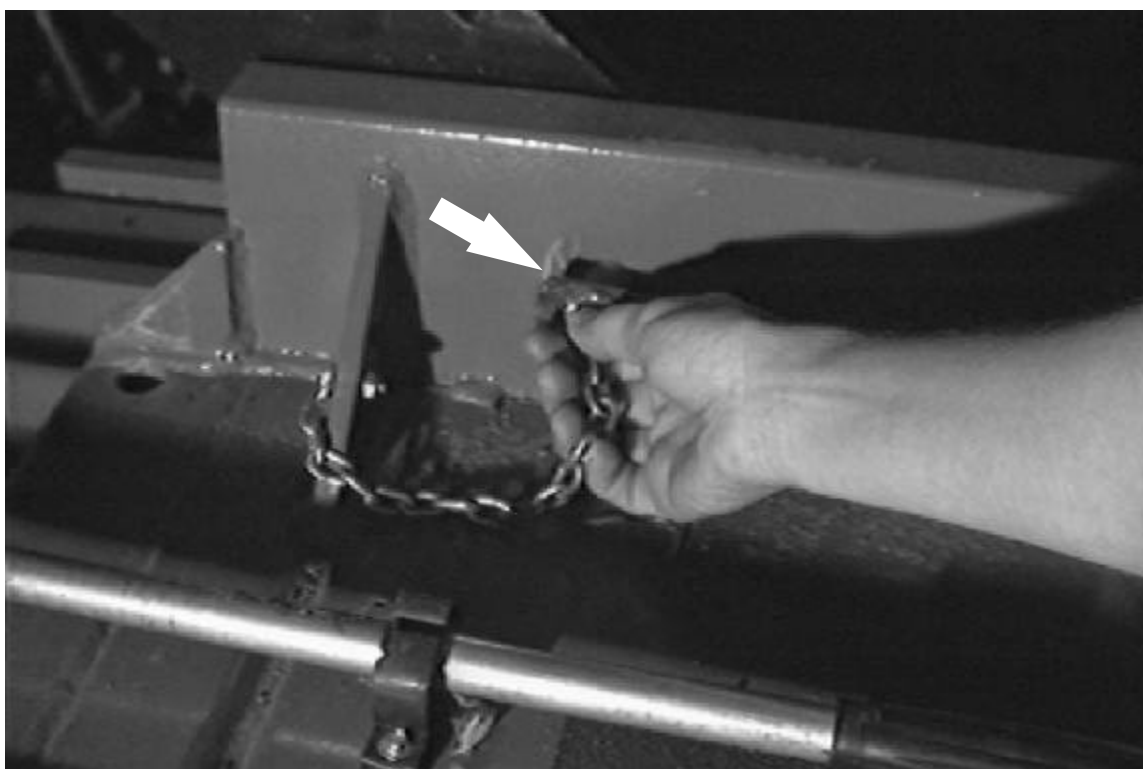

FIG. 1 - Insert Safety Pin
(Refer to FIG. 1)
2. Insert the safety pins in the channels. (Refer to Fig. 1)